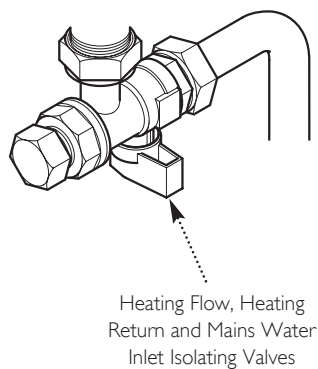

Fig. 7
2. The water isolating valves are positioned under the boiler and can be closed by turning their taps to the right towards the wall (Fig. 7).